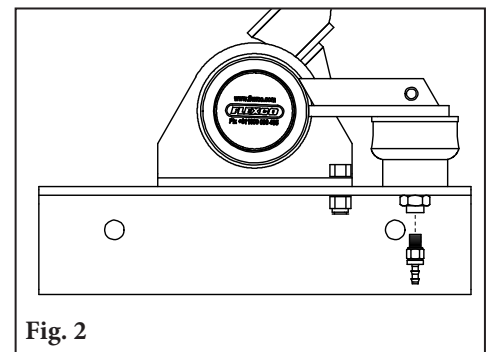

Fig. 2
CAUTION: Do not over tighten as it may cause damage to the air cushion stem (Fig. 2).
- 3. Connect provided hose with the Control Box.** With the hose provided with the PAT Air Tank, connect one end into the Control Box (Fig. 2).